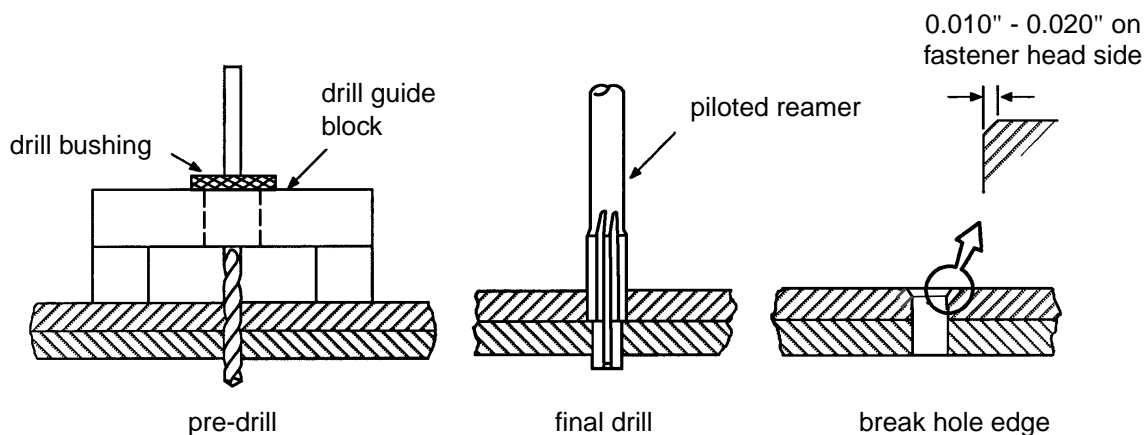
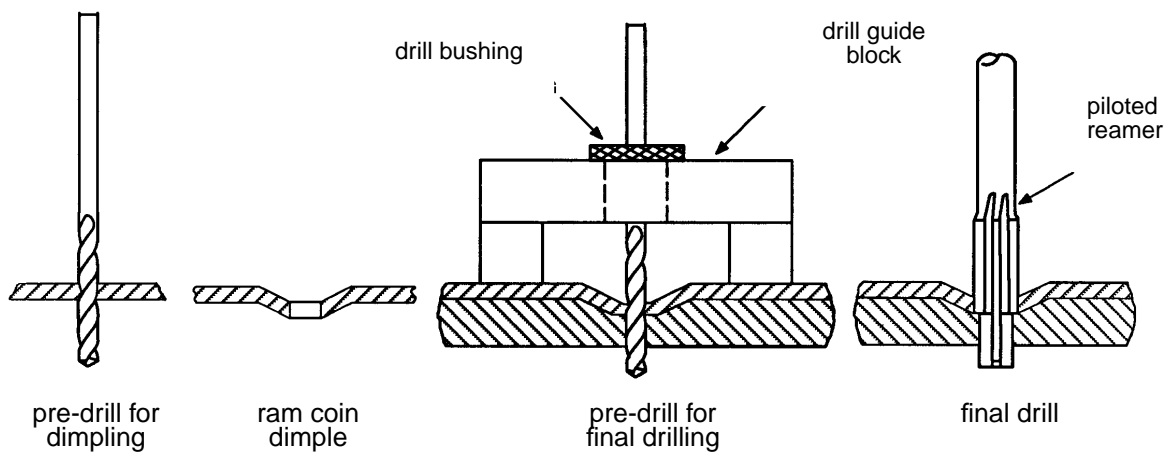
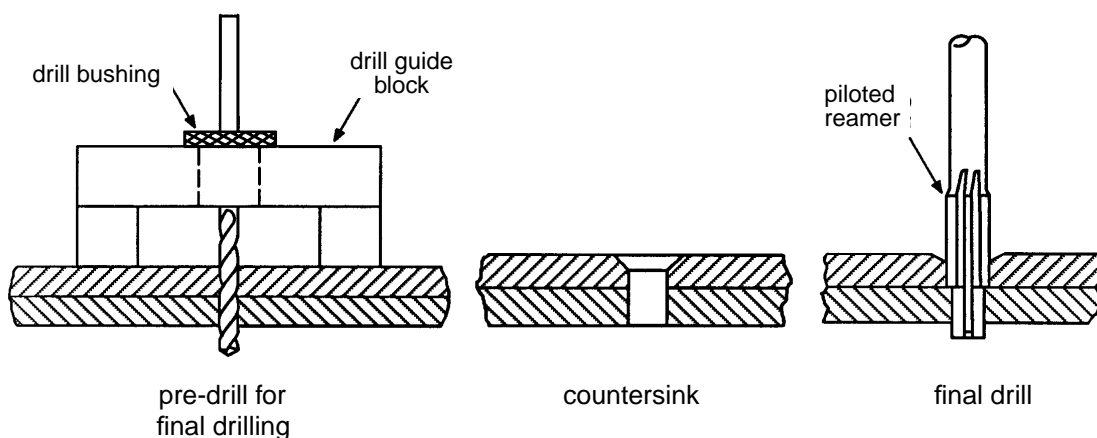

Figure 6 - Hole Preparation for Flat Head Rivets
Figure 7 - Hole Preparation for Flush Head Rivets (Dimpled Installation)
Figure 8 - Hole Preparation for Flush Head Rivets (Countersink Installation)
- 5.2.2 Prepare holes for the installation of rivets (see Figure 6, Figure 7 & Figure 8) and dowel pins as follows: